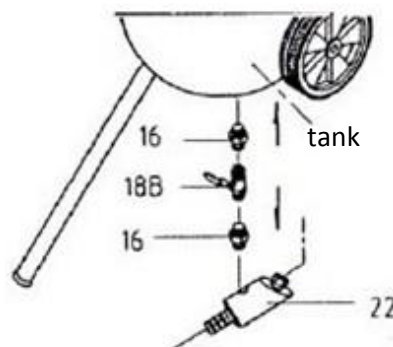

Figure 4
4. Refer to Figure 4 for instructions on mounting the sand outlet valve into the hole located on the bottom of the tank.